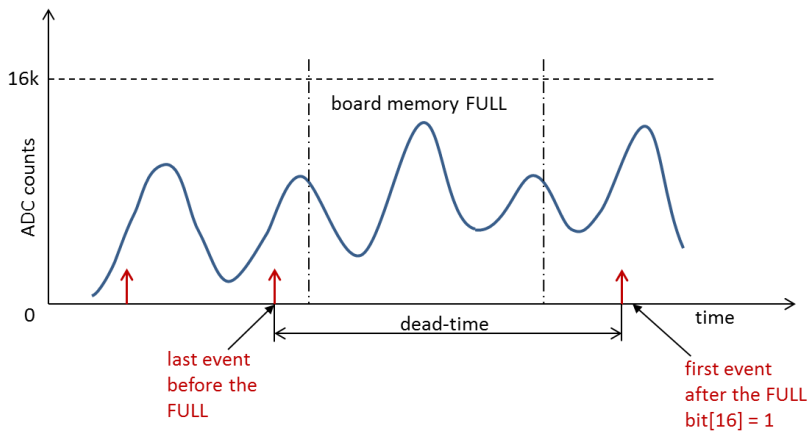

Fig. 5.3: Dead-time in case of FULL memory status.
- 2) DEAD_TIME in case of FULL board memory (**Fig. 5.3**). When the memory of the board is full, no trigger is accepted. When the board is ready to read again the input, events start again to be triggered in the usual way (zero crossing of the RC-CR2 signal). The first event after the FULL will have the bit[16] set to 1, and the energy value as read from the algorithm. As before, the dead time is equal to the time difference between the last trigger occurred and the trigger after the FULL status.